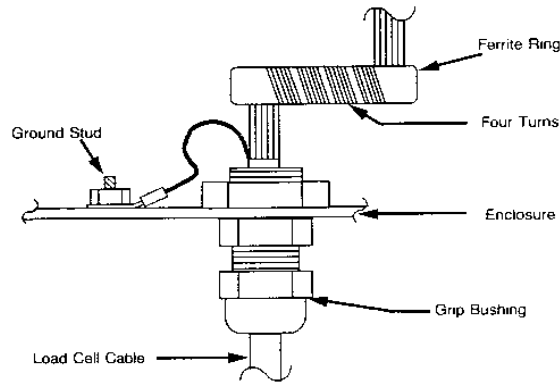

Figure 6.2 Ferrite Ring for High RFI Concentration
6. In areas of high RFI concentration, this step must be completed. If no RFI is present, this step is optional. Wrap the load cell cable through the ferrite ring (included with 8510) four times as shown in Figure 6.2.